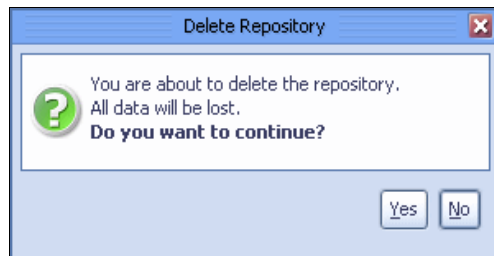

Figure 10-13 Delete repository confirmation window
3. A confirmation window opens (Figure 10-13).